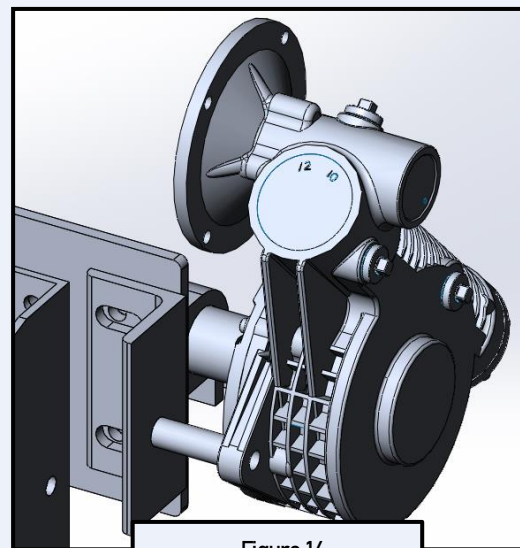

Figure 14
3. Slip one (1) 1/2" Washer over one (1) 1/2" X 2-1/2" Hex Bolt and insert it into the hole in the spool shaft, making sure the bolt goes through the drive shaft.
4. Slip one (1) 1/2" Washer, one (1) 1/2" Lock Washer, and one (1) 1/2" Hex Nuts onto the protruding end of the bolt and securely fasten.
5. Rotate the SEADRIE so the motor mounting flange is oriented upward; this should align the rear-drive mount tab with the torque angle tube as shown in figure 14.
6. Slip one (1) 1/2" Washer over one (1) 1/2" X 4-1/2" Hex Bolt and insert it into the hole in the spool shaft, making sure the bolt goes through the rear-drive mount tab and the torque angle tube.
7. Slip one (1) 1/2" Washer, one (1) 1/2" Lock Washer, and one (1) 1/2" Hex Nuts onto the protruding end of the bolt and securely fasten.